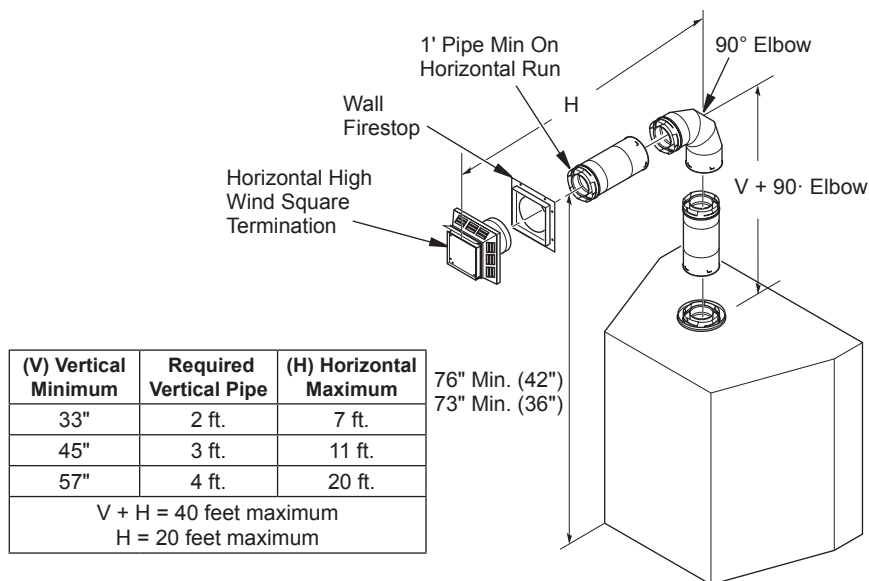

Figure 15 - Horizontal Termination Using One 90° Elbow
1. Set fireplace in its desired location and determine the route your horizontal venting will take. Do not secure fireplace until all venting has been installed. Some installations require sliding fireplace in and out of position to make final venting connections. Figures 15 and 16 on page 14 show different configurations for venting with horizontal termination that will help you decide which application best suits your installation. Check to see if wall studs or roof rafters are in the path of your desired venting route. If they are, you may want to adjust location of fireplace.
Figures 15 and 16 show a configuration for venting with horizontal termination with a chart of critical minimum and maximum dimensions which **MUST** be met.